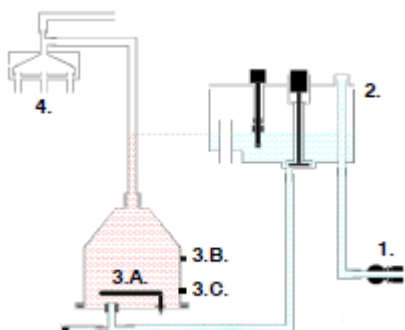

Fig. 1 Water dosing system
| Fig. 1 Water dosing system .....                                    | 1  |
- The magnetic valve (Fig.1) opens and fills the float tank with water at a pressure-independent speed of 2 litres/minute.
Now that the system has been filled with water (Fig.1,3A), the heating element is switched on by a separate mechanical relay. The temperature sensor (Fig.1,3C), which is on the outside of the boiler, measures the actual temperature of the water. The temperature sensor ensures that the water in the boiler is heated to the desired temperature. A thermometer flashes on the LCD display during the heating phase. This indicates that the machine is not yet ready for use.
There is a second temperature sensor on the boiler (Fig.1,3B). This sensor monitors the dispensing temperature of the dosed water. If this sensor measures a too low temperature, the machine is blocked.